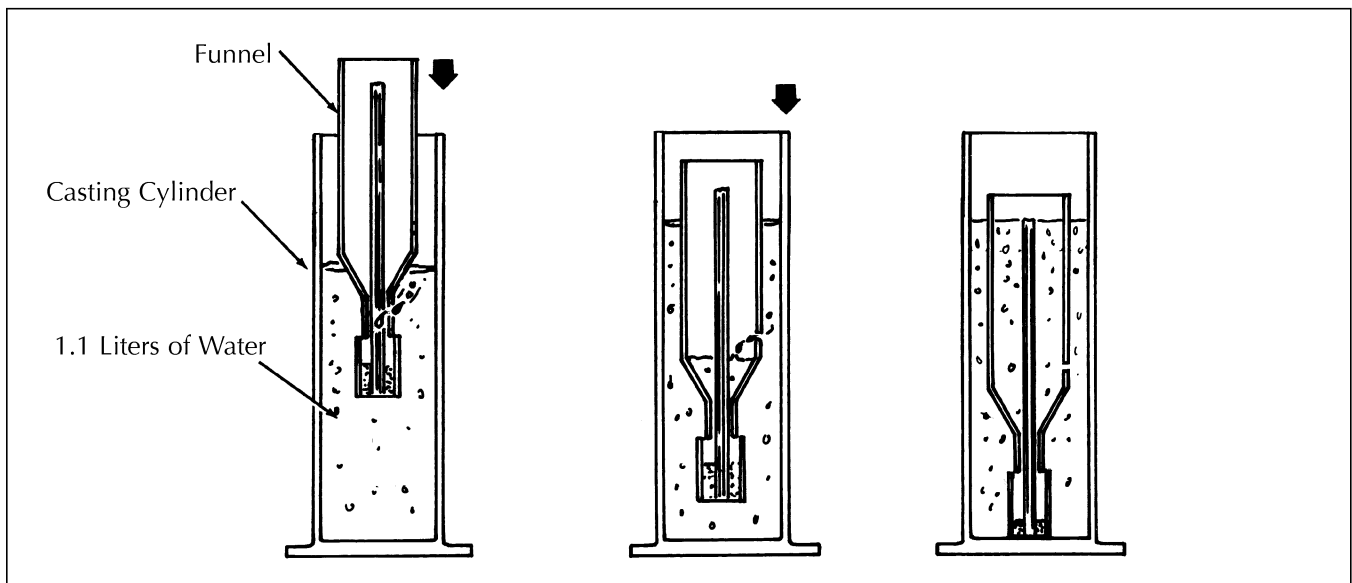

Figure 4. Inserting the Casting Funnel Assembly
6. Place the gel casting funnel into the casting cylinder containing the 1100 ml of 18 MOhm water. Water will slowly enter through the lower small hole, displacing the casting solution, and then pass more rapidly through the larger hole as the fluid level rises. To prevent uneven filling of the tubes, do not apply any pressure to the funnel when introducing it into the casting cylinder; simply allow it to sink on its own (Figure 4).